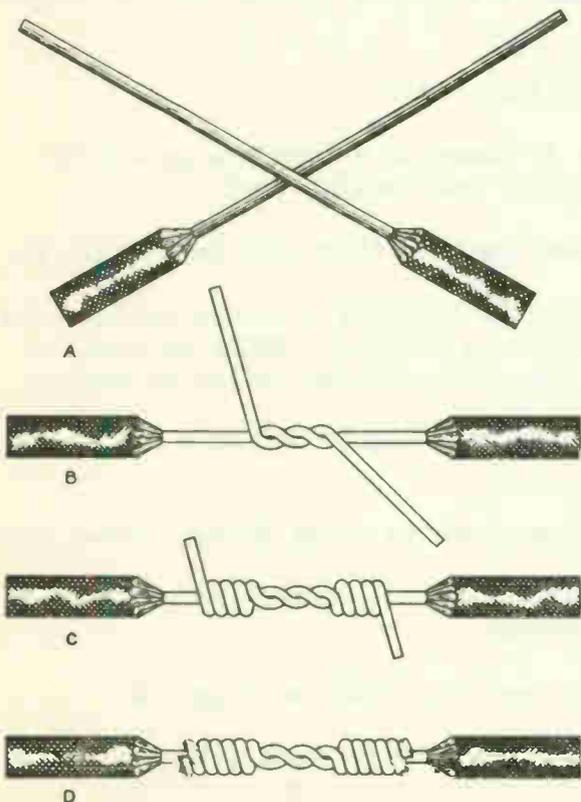

Fig. 3 Western Union splice
7. Make the western union splice, Fig. 3, by first stripping and cleaning 4 inches from the end of #14 wire. Follow each step carefully being sure to have no less than three and no more than five twists. CAUTION: Be sure to wrap the ends so that on each wire there will be a very small space from the last wrap to the insulation, otherwise a weak spot results. Wrap at least five no more than ten turns. Refer to Fig. 3D.